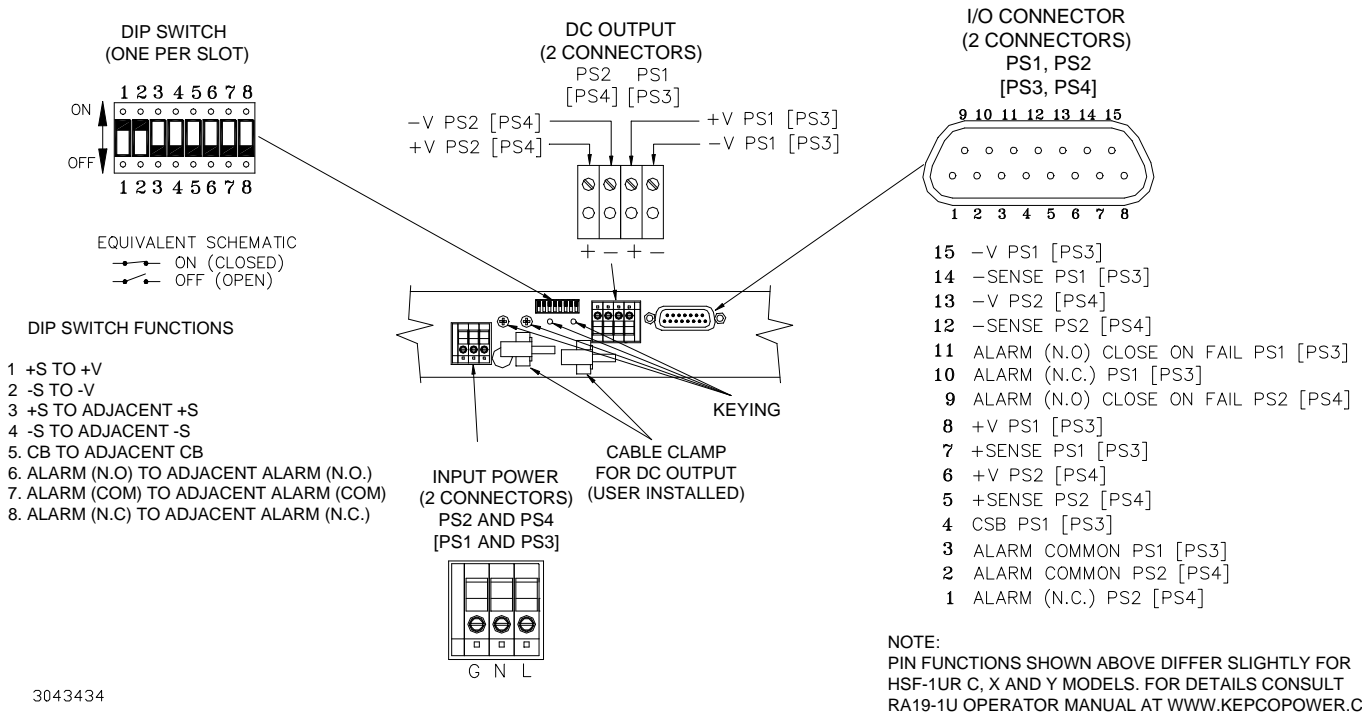
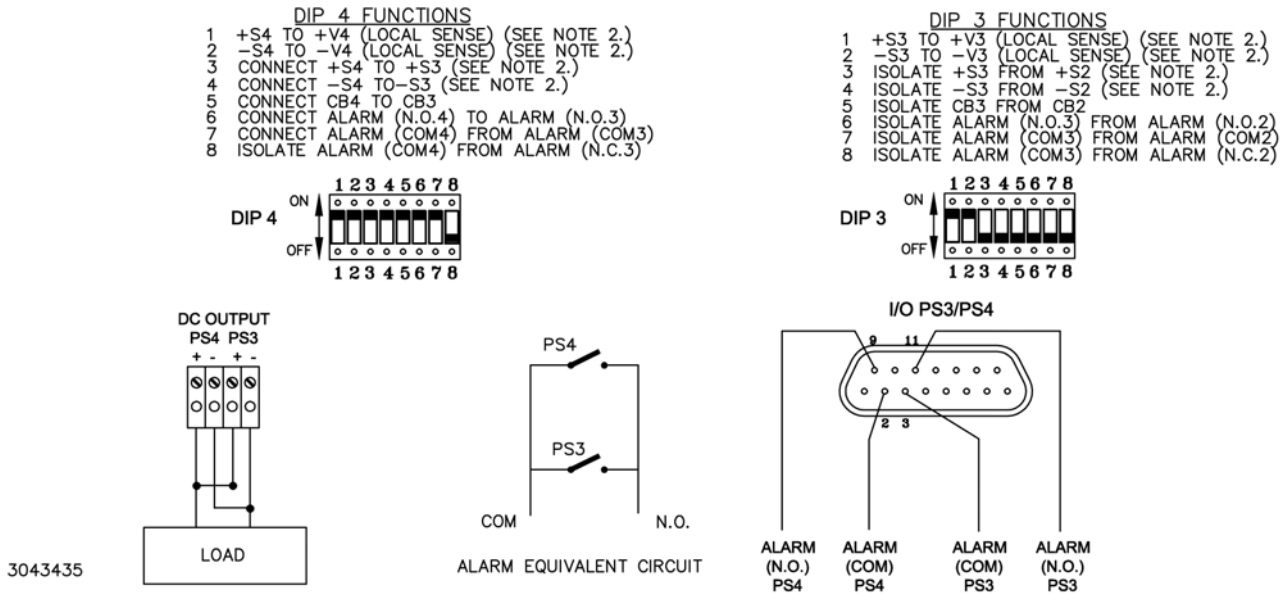

FIGURE 1. REAR PANEL CONNECTIONS, TYPICAL
FIGURE 3. SLOTS 3 AND 4 CONFIGURED FOR PARALLEL OPERATION, WITH CLOSE ON FAIL ALARM CIRCUIT
The rack adapter is user-configurable for parallel, series, or independent power supply operation. Forced current sharing and OR'ing diodes for N+1 redundancy are built into the HSF power supplies. Redundant a-c inputs are provided to deliver independent source power to each power supply in a redundant pair. User-configurable keying can ensure that only the correct power supply can be installed in a keyed slot. Input/output connections between RA 19-1U and HSF power supply are via HSF connectors that plug into corresponding connectors of the RA 19-1U. All connections are made at the rear panel (see Figure 1).
DIP SWITCHES. The DIP switches (Figure 1) are arranged as follows: DIP 1 is for PS1 sense lines; DIP 2 is for PS2 sense lines and for paralleling PS1 and PS2. DIP 3 is for PS3 sense lines and for paralleling PS2 and PS3. DIP
INDEPENDENT OPERATION. The RA 19-1U rack adapter is shipped with the DIP switches of all slots configured for independent operation (see Figure 1) and local sensing. Refer to RA 19-1U manual for remote sensing.
Figure 3 shows HSF's in slots 3 and 4 connected in parallel (master/slave, master established automatically by voltage) with forced current sharing and a close-on-fail alarm circuit. Both HSF modules are configured for output voltage to be adjusted from the front panel trimpot (factory default setting). See HSF operator manual for other output voltage adjustment options.
3. Set position 5, to ON. This connects the current share bus (CB) for slots 4 and 3.
4. Set positions 6 and 7 to ON. Position 6 connects the normally open ALARM (N.O.) lines and position 7 connects the ALARM (COM) (common) for slots 4 and 3, implementing a close-on-fail alarm circuit (see equivalent schematic shown in Figure 3. If either PS3 or PS4 fails, a contact closure provides continuity across pins 7 and 14 of both I/O 4 and I/O 3.
ALARM N.O. and ALARM COM (see Figure 1). Open on Fail circuits are across I/O connector pins for ALARM N.C. and ALARM COM. Figure 3 shows a parallel close-on-fail circuit for slots 3 and 4 using the DIP switches to make the connections. See Operator Manual for other options.
The rack adapter is supplied with six cable clamps equipped with release levers that can be snapped into holes provided in the rear panel (see Figure 1) to support the weight of the input, output and signal cables.
CONTROL SIGNALS: Access to all the control signals for each HSF power supply is provided via two 15-pin D-subminiature I/O connectors on the rear panel of the rack adapter (see Figure 1). Two mating connectors (Kepco P/N 142-0449) are provided in a plastic bag.